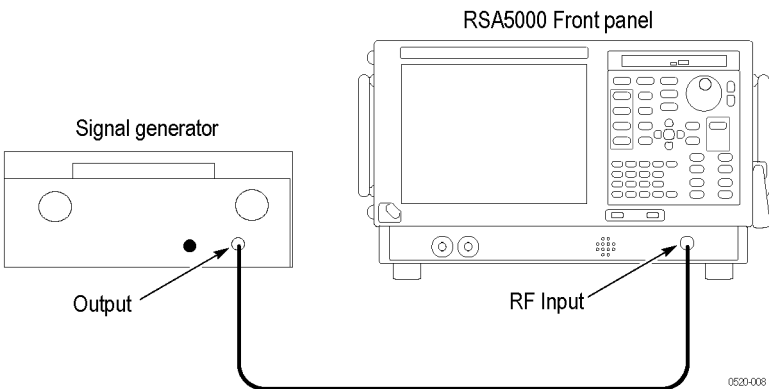

Figure 19: Equipment connections for Signal Spurious check
1. Connect the RF generator to the RSA5100A RF Input. (See Figure 19.)